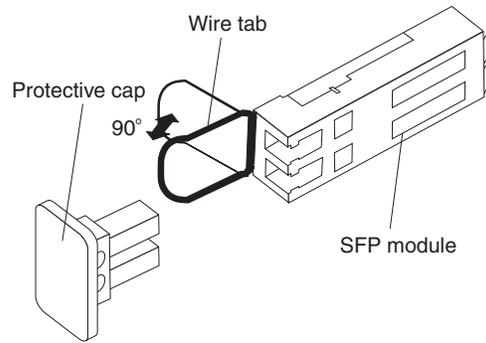

Figure 51. Unlocking the SFP module latch - wire variety
- For SFP modules that contain wire tabs, unlock the SFP module latch by pulling the wire latch outward 90°, as shown in Figure 51 on page 65.